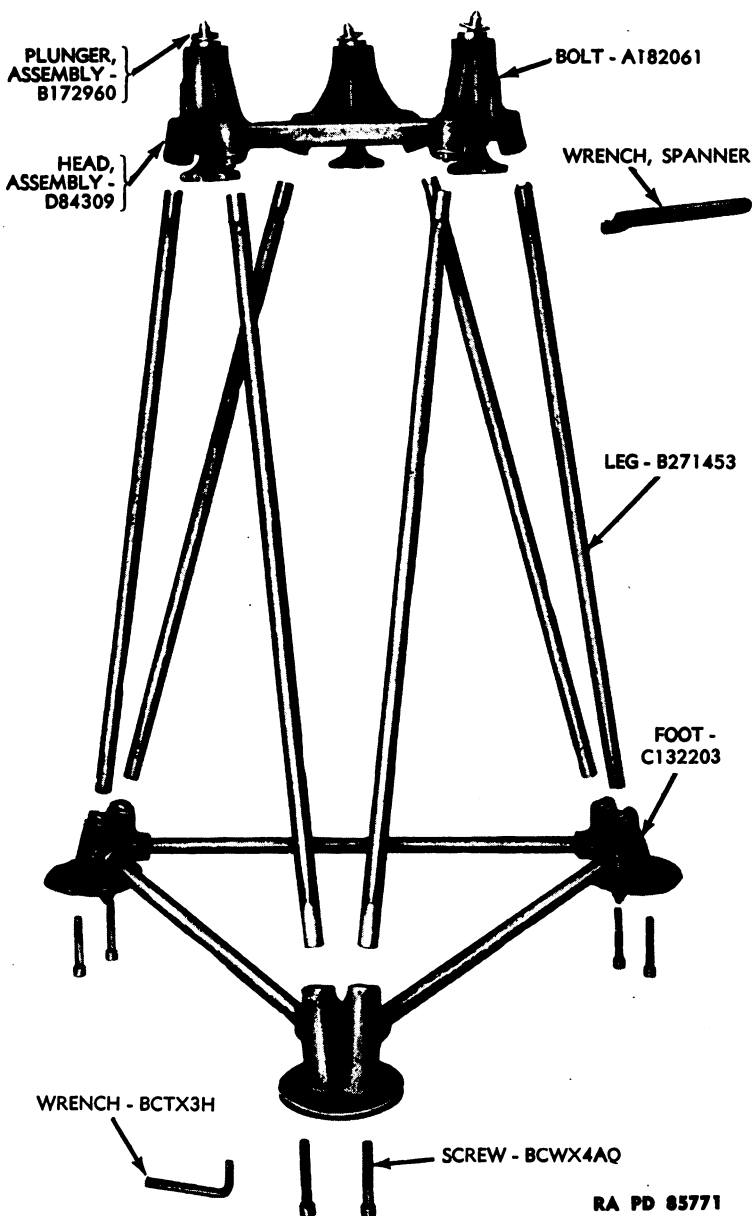

Figure 55 – Tripod M19 – Exploded View
b. Tripod M19 (fig. 55) is of similar construction but is made with threaded joints so that it can be disassembled and packed in a smaller space. This tripod has been furnished only with later Directors M5A1, but is interchangeable with Tripod M7.